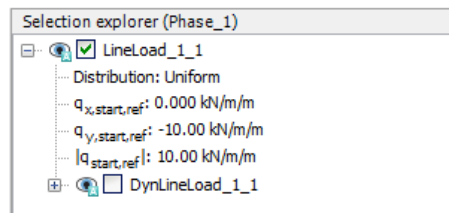

Figure 7-7: Line load in the Selection explorer
- 4 After selecting the line load assign a value of -10 to $q_{y,start,ref}$ in the **Selection explorer** shown in Figure 7-7 \(p. 130\):